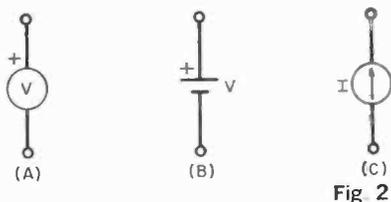

Fig. 2
**A. Definition.** (1) An *ideal voltage source* is one whose voltage,  $V$ , is constant regardless of the current it supplies. (2) An *ideal current source* is one whose current,  $I$ , is constant regardless of the voltage across the element to which it supplies current.
**B. Symbols.** Symbols for ideal voltage and current sources are shown in Fig. 2.